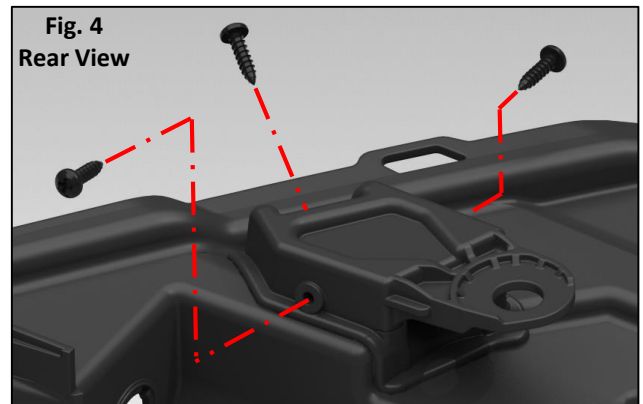

Fig. 4
**4. Install:** Install the prepared tab(s) ensuring a flush fit to the housing **Fig. 4**. Next, drive the 5/8" screw at the location marked **(A1)**, followed by locations marked **(A)**, while holding parts firmly together. **APPLY GLUE TO SCREW THREADS BEFORE DRIVING.** Do not overtighten screws. Allow the glue to cure for approximately 30 minutes before installing the repaired headlight on the vehicle.